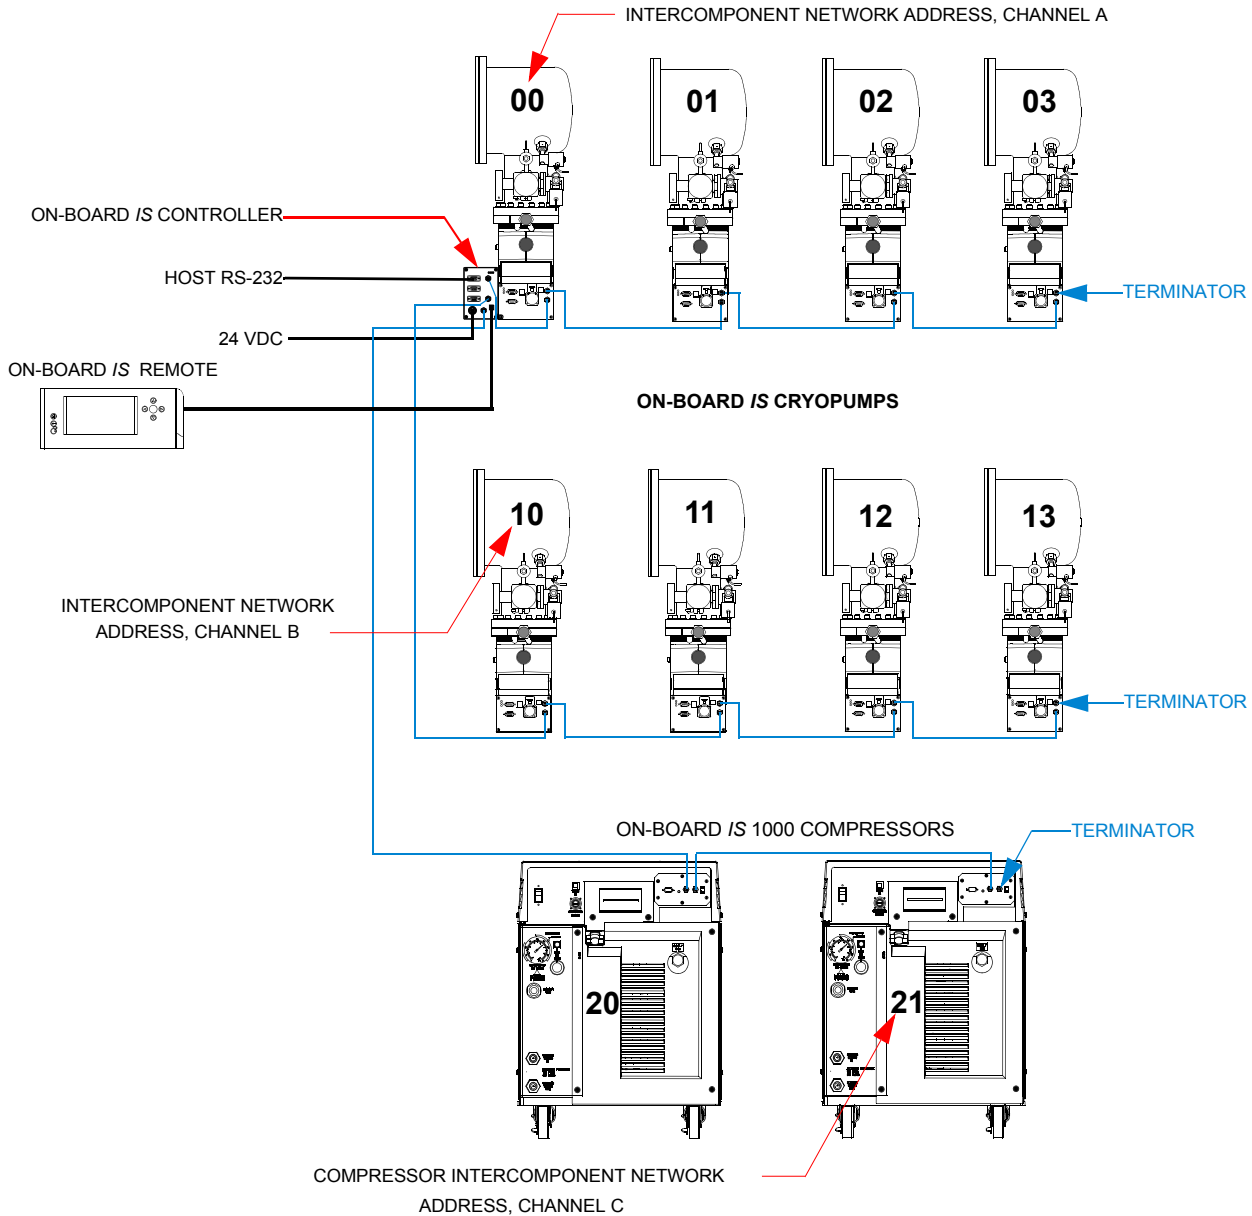
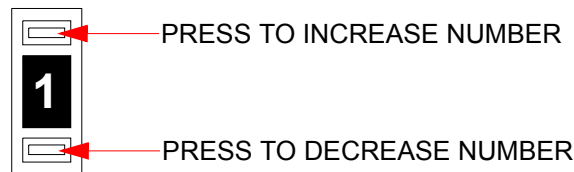
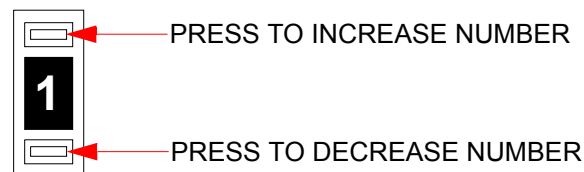

Figure 2-2: Typical Intercomponent Network
Figure 2-3: Network Address Switch for Single Stage Cryopumps
Figure 2-4: Compressor Network Address Switch
See Figure 2-2 for an example of a typical intercomponent system network.
1. Set the address switch for each On-Board IS Cryopump on channel A to the appropriate network address as shown in Figure 2-2, with the address switch in Figure 2-3.
2. Set the address switch for each On-Board IS Cryopump on channel B to the appropriate network address as shown in Figure 2-2, with the address switch in Figure 2-3.
Set the address switch for each Compressor on channel C to the appropriate network address as shown in Figure 2-2, with the address switch in Figure 2-4.